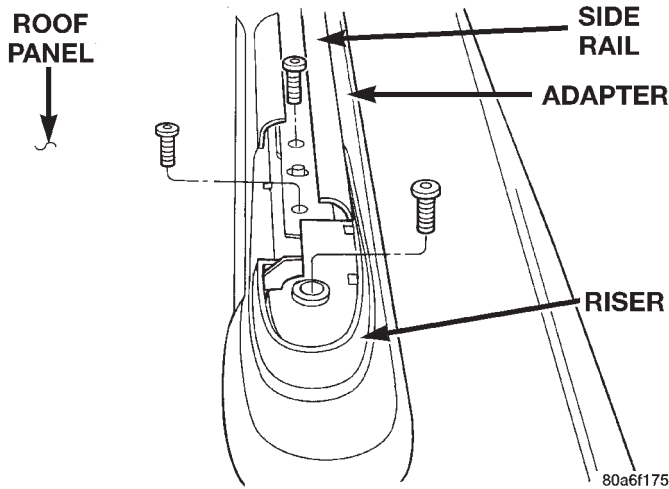

Fig. 77 Siderail
- (3) Remove the screws attaching the side rails to the risers and adapter plates (Fig. 77).
- (4) Separate the luggage rack from the adapter plates.
- (5) Remove the screws attaching the adapter plates to the roof panel.